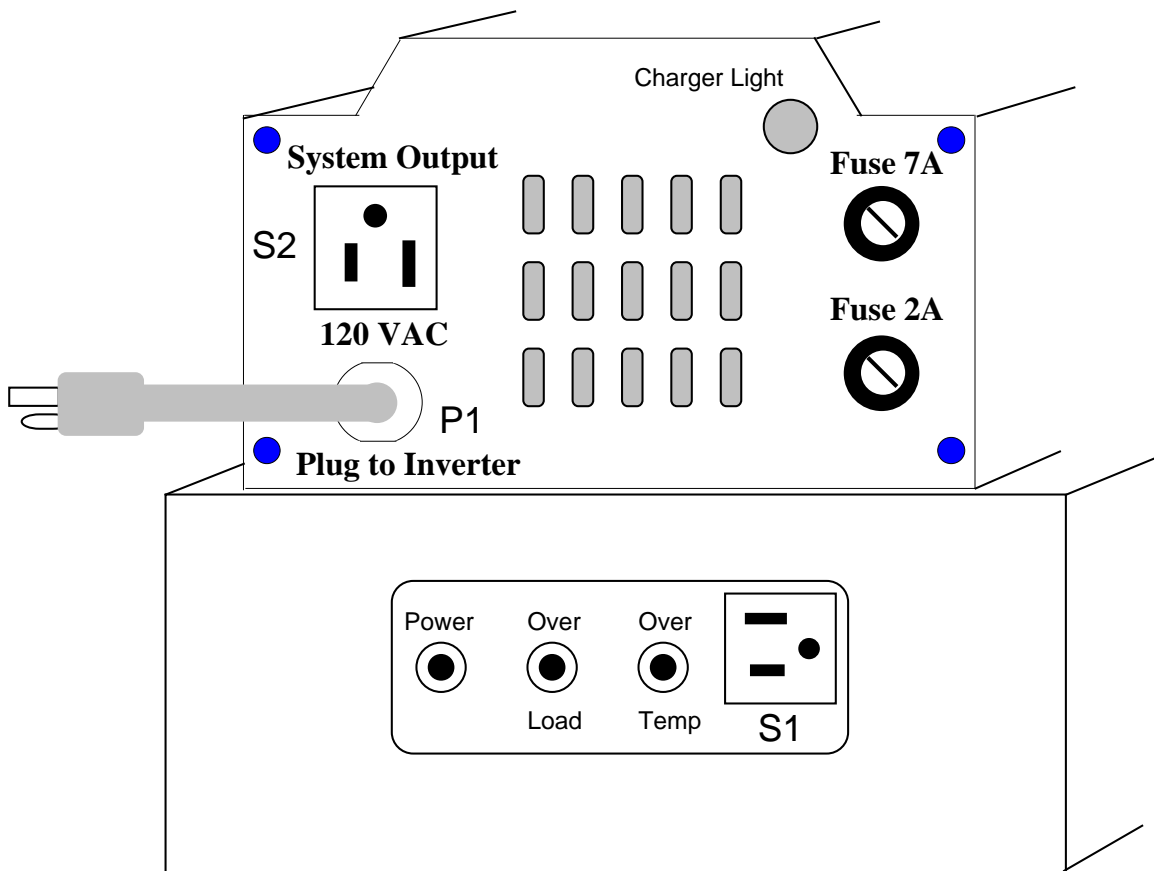

Figure 1
Figure 1 shows the front view of the unit.
**DOUBLE CHECK CONNECTIONS (B) THROUGH (D) AS ANY CONNECTION ERRORS MAY RESULT IN MALFUNCTION OR PERMANENT DAMAGE.**
**E) Connect the appliance to be powered to receptacle S2 shown in Figure 1.**